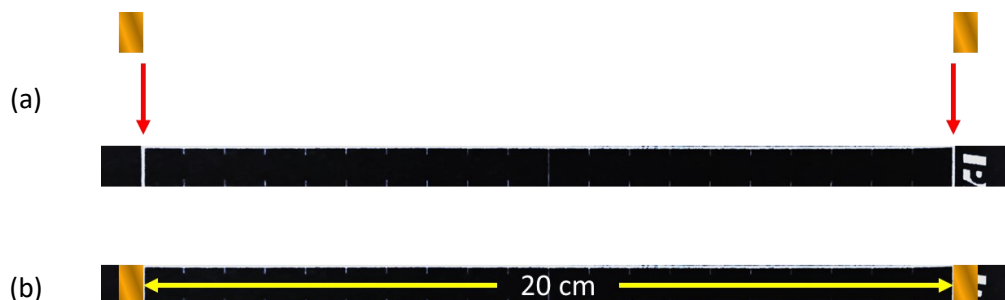

Fig. 3: (a) Apply a piece of conductive tape to each end of the conductive paper strip. (b) The two tape pieces should be separated by 20 cm.
3. Take 2 of the conductive tape pieces and apply one at each end of the conductive paper strip with the edge of the tape strips aligned at the top and bottom of the grid. Their edges should be separated by 20 cm (see Fig. 3).